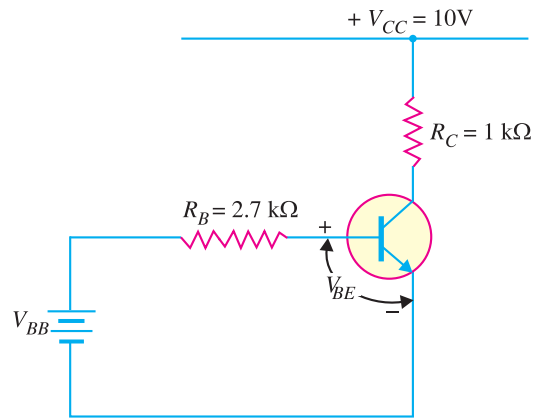

Fig. 18.9
**Example 18.3.** Fig. 18.9 shows the transistor switching circuit. Given that  $R_B = 2.7 \text{ k}\Omega$ ,  $V_{BB} = 2 \text{ V}$ ,  $V_{BE} = 0.7 \text{ V}$  and  $V_{knee} = 0.7 \text{ V}$ .